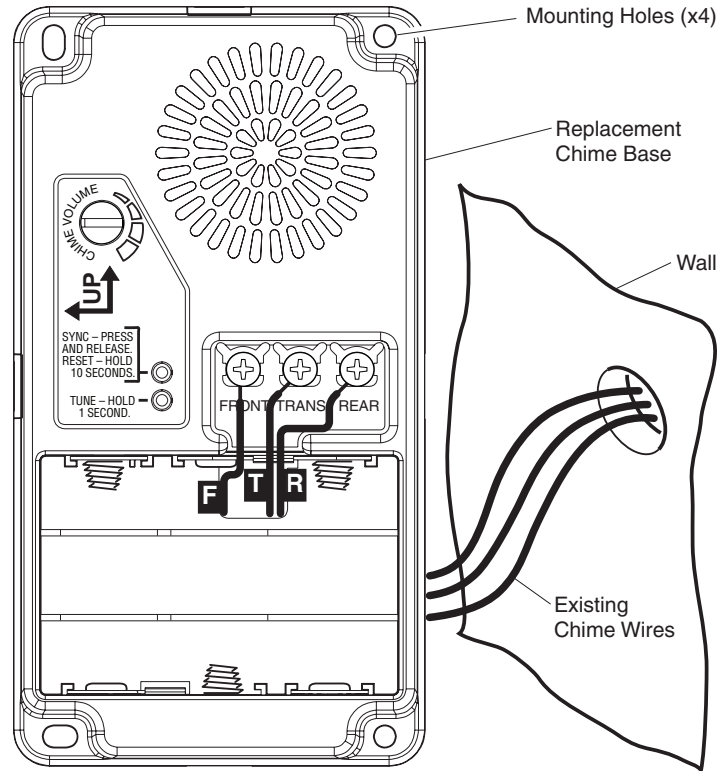

**Figure 1**
6. Determine proper chime base orientation (one arrow should be pointing up). The chime cover style may determine orientation (see Figure 1).